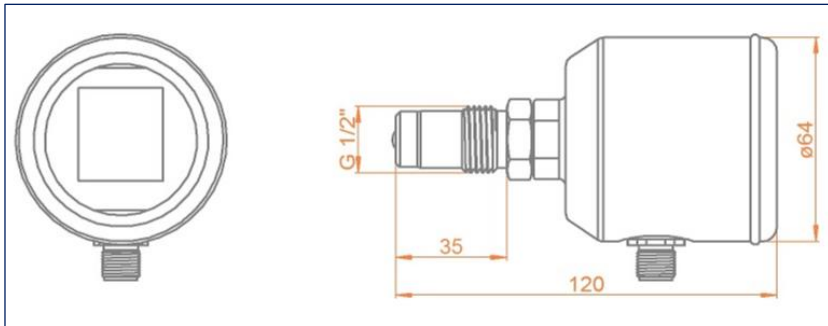

Fig. 1: Sensor dimensions
- 2. Attach plugs at 4 evenly-spaced points (Fig. 1 below)